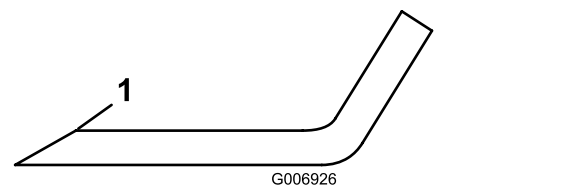

**Figure 73**
3. Examine the cutting ends of the blade carefully, especially where the flat and curved parts of the blade meet (Figure 73).